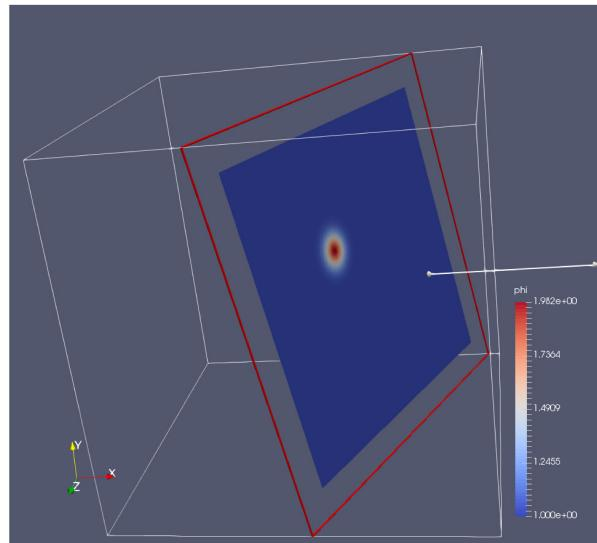

Fig. 13.1: : Plotfile image generated with ParaView
7. You can play with the Plane Parameters to define a plane of data to view, as shown in Fig. 13.1.